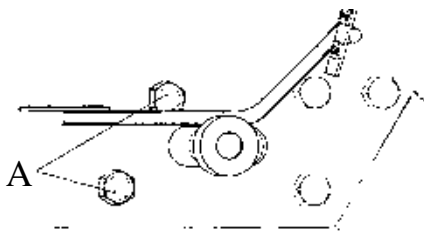

Figure 6.14 Drive selector pedal
1. Loosen the two retaining bolts (A) on the drive selector pedal bracket. Figure 6.14.
3. Tighten the two retaining bolts (A) on the drive selector pedal bracket and check the operation of drive selector pedal.